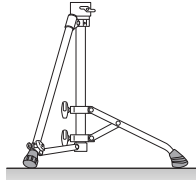

Fig.2
a) Using on Flat Surface (As shown in Fig. 2)